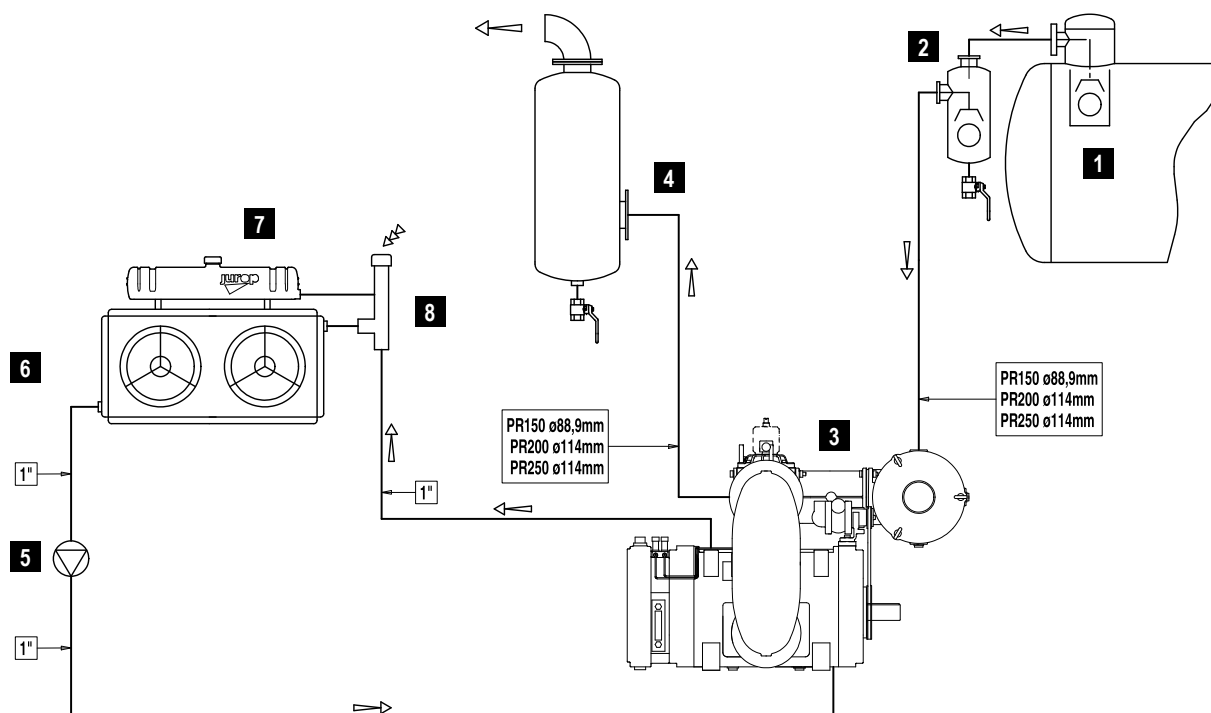

Fig. 3.1
The noise made by the pump must be reduced by a silencer placed along the discharge line, as close as possible to the outlet of the pump. It must be adequate for the air flow of the vacuum pump. The oil used for lubricating the vacuum pump must be separated by means of a suitable oil separator (normally built in the exhauster). Such oil separator must be drained by means of a tap which has to be checked daily (see pos.4 fig. 3.1).